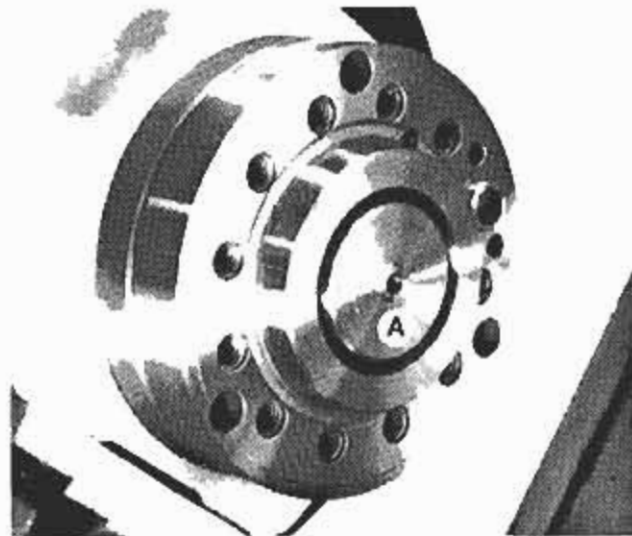

Figure 3 - Draw Collet
1. Install draw collet "A", Figure 3, in the spindle.